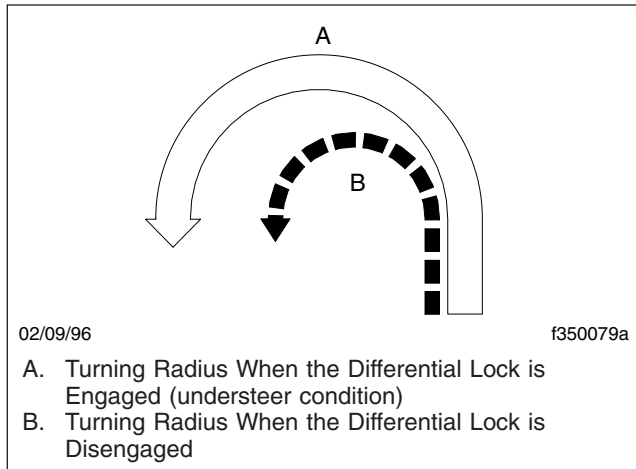

Fig. 16.2, Turning Radii
3. Drive cautiously and do not exceed 25 mph (40 km/h). When the differential is fully locked, the turning radius will increase because the vehicle understeers. See Fig. 16.2.